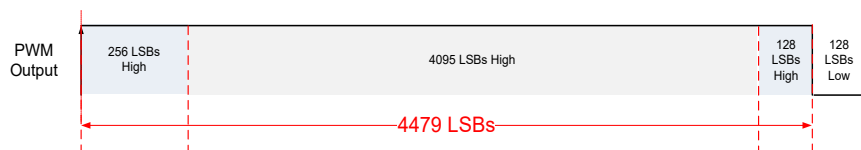
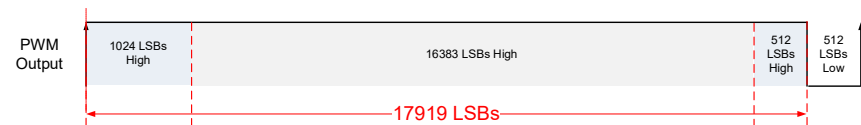

Figure 35. 12-bit PWM signal in Diagnostic high mode
Figure 37. 14-bit PWM signal in Diagnostic high mode
- Diagnostic high mode, see Figure 35 and Figure 37